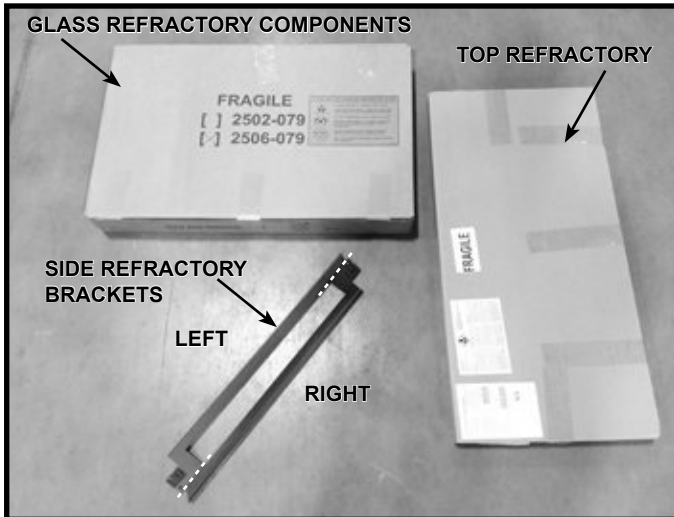

Figure 1. Black Glass Refractory Components
- 1. Locate the black glass refractory components which are shipped inside the appliance. The top refractory and glass refractory components are shipped as shown in Figure 1. The refractory bracket is shipped wrapped in microfoam.
2. Bend the refractory bracket along the break lines indicated by the dashed white lines in Figure 1 to separate it into two parts. The left and right brackets are noted in Figure 1.